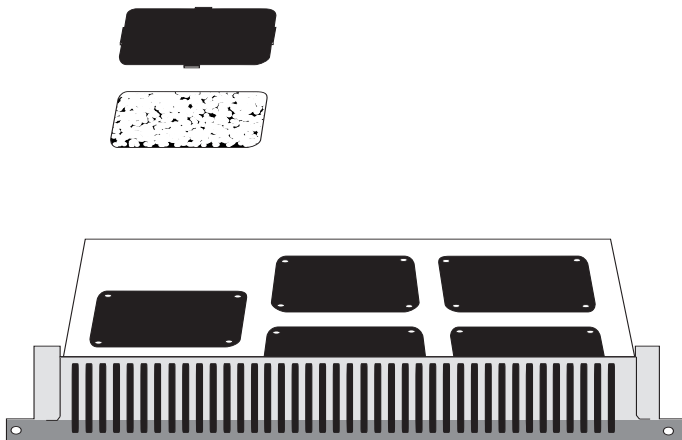

Figure 2-9 Removing/fitting filters
- 2 The filters are located in holders, one protecting each fan. Refer to Figure 2-9. Unclip the cover of the filter holder and remove the sponge filter.